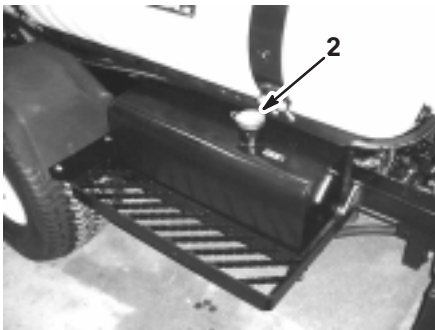

Figure 8
2. Clean the area around the hydraulic oil tank cap and remove it (Fig. 8).